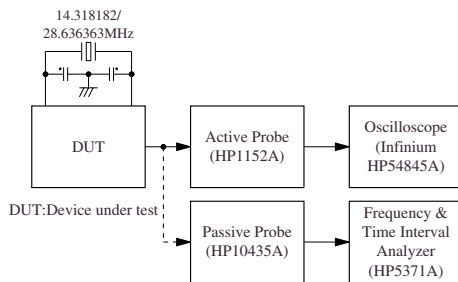

Figure 1. Measurement circuit 1
*1. Measured using the circuit shown in figure 1 on the NPC standard evaluation board.